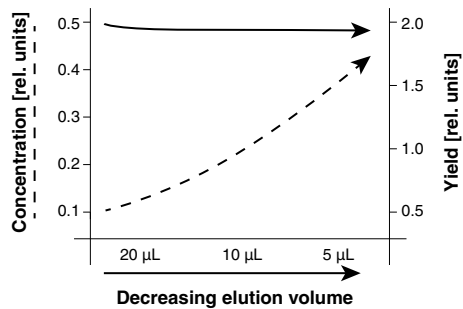

Figure 2 Correlation between elution volume and DNA concentration (NucleoSpin® Tissue XS Columns)
- d) The incubation of the eluate at higher temperatures may be adjusted according to Figure 2. The incubation times and conditions shown will reduce an elution volume of 20 μL to about 12–14 μL and will effectively remove traces of ethanol as described above.